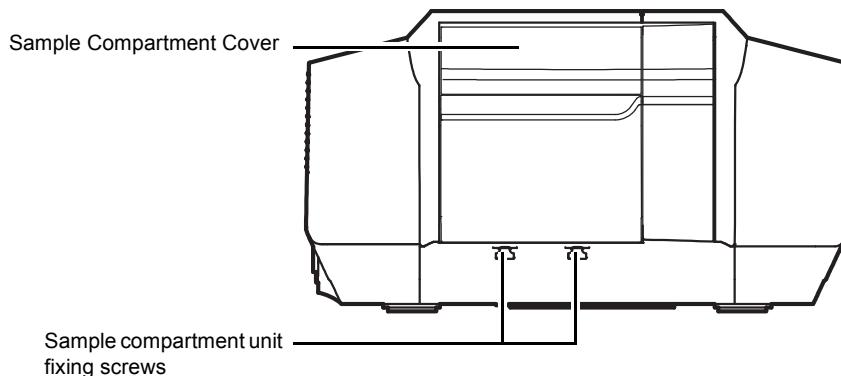

Fig.5-4 Main Body, Front View
- 1 Loosen the two sample compartment unit fixing screws located at the bottom of the sample compartment (Fig.5-4).
2 Tighten the two sample compartment fixing screws (Fig.5-4) to secure the sample compartment unit.
3 Close the sample compartment cover (Fig.5-4).
- 5 Close the sample compartment cover (Fig.5-4).
- 6 Close the sample compartment cover (Fig.5-4).